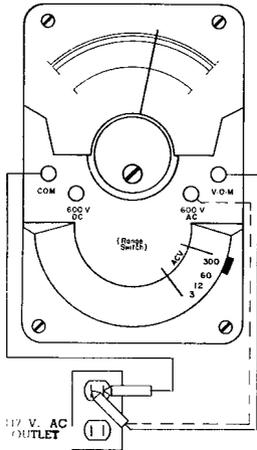

FIGURE 5. AC Voltage
3.03 The AC voltage ranges are 0-3, 12, 60, 300 and 600 and are read as follows (see Figure 5):